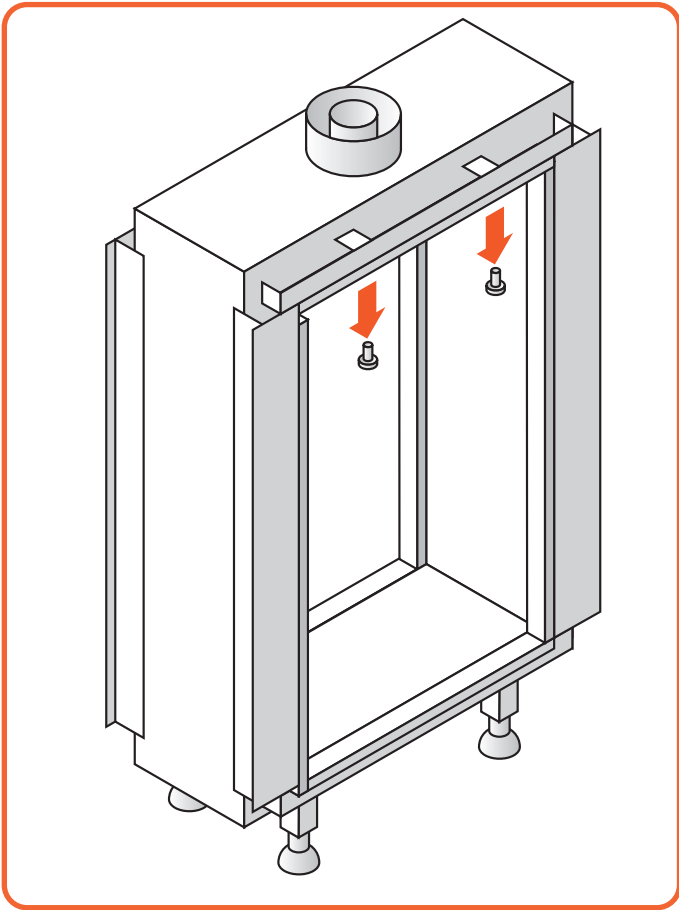

Figure 9.2 | Remove screws upper trim
- Remove the screws from the upper trim, see Figure 9.2